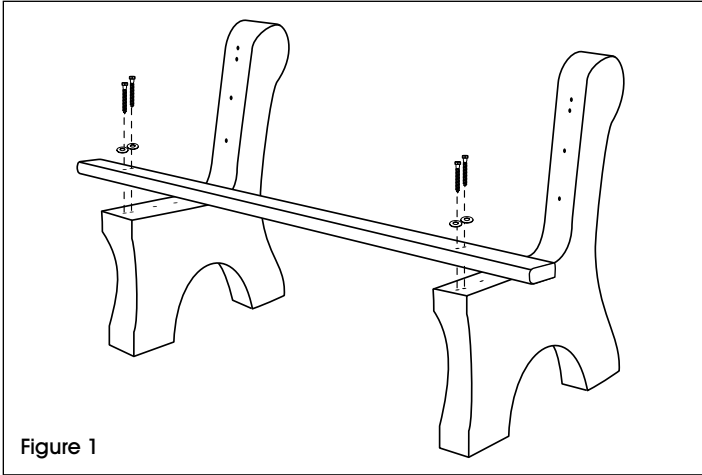

Figure 1
3. Align a double holed bullnose bench slat on the front set of pre-drilled holes on the bench base seat. Loosely attach bench slat to the bench bases with the 3 1/2" lag screws and washers using the power drill and 7/16" socket bit (will tighten later in step 7). (See Figure 1)